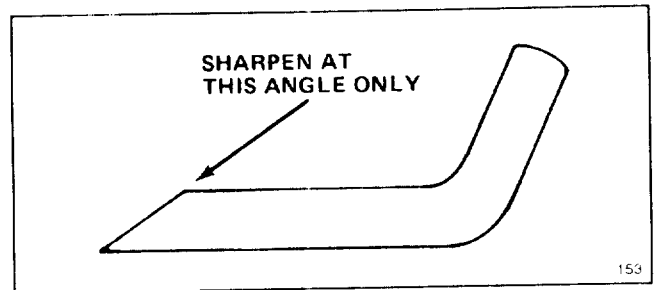

Figure 26
6. SHARPENING BLADE—Using a file, sharpen top side of blade and maintain original cutting angle (Fig. 26). The blade will remain balanced if same